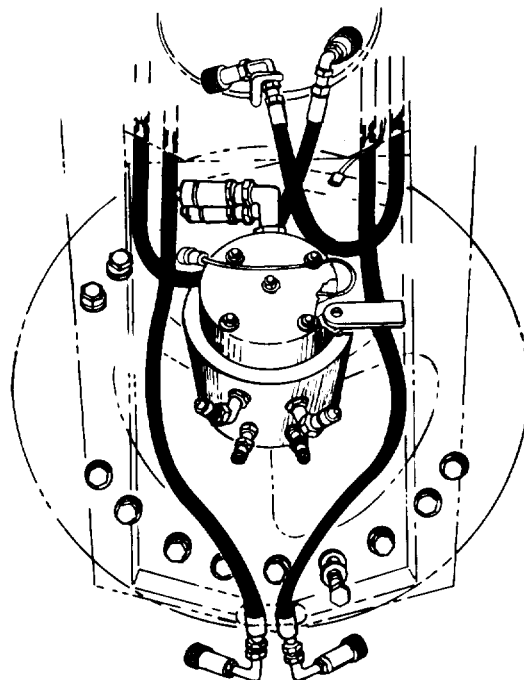

Figure 5-20 Location of Boom Hoist Cylinder Hoses After Disconnection
- i. Remove all dust caps and plugs from connectors on hoses and rotary manifold in center of swing bearing (Figure 5-20). Stow caps and plugs in tool box.